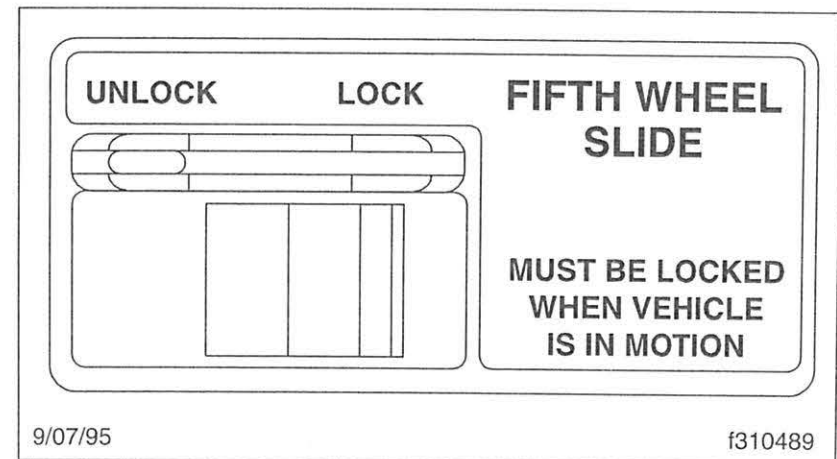

Fig. 10.13, Cab Control, Fifth Wheel Slide
- 3.1 For air-operated models, set the cab-operated control switch (**Fig. 10.13**) to UNLOCK.